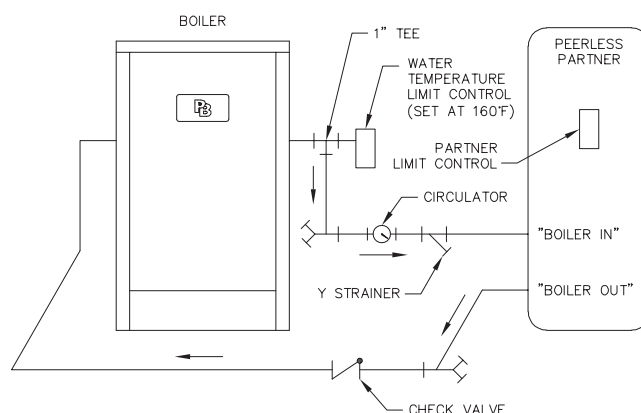

Figure 4.5: Typical Steam Boiler Indirect Water Heater Piping
- See Figure 4.5 for typical installation.